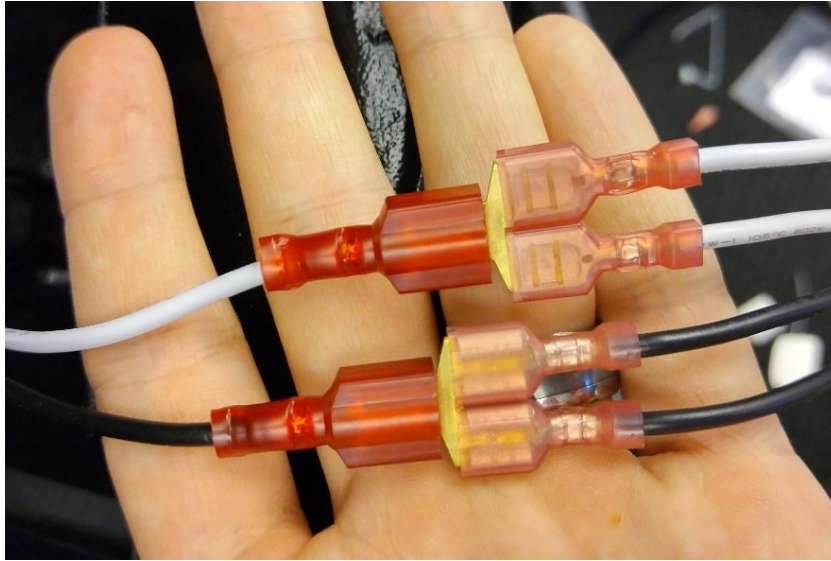

Fig. 4
5. Install the wire splitters into the respective power inlet terminals (Fig. 4), black to black, and white to white.